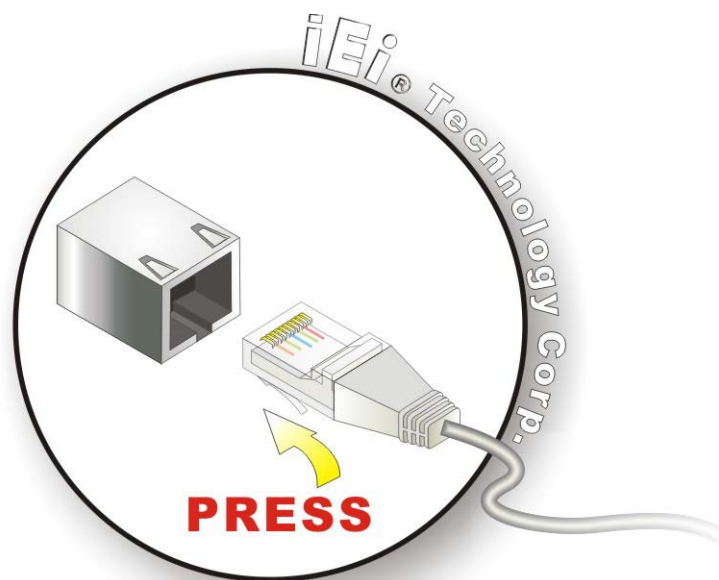

Figure 3-14: LAN Connection
Step 2: Align the connectors. Align the RJ-45 connector on the LAN cable with one of the RJ-45 connectors on the ECN-780-Q67. See Figure 3-14.